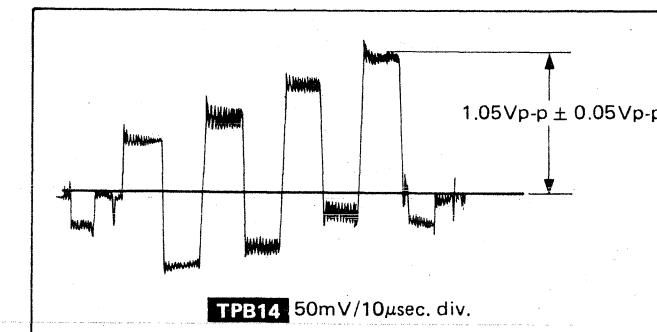

Fig. 12
6. Adjust R5106 (Sub. Colour) so that the waveform **TPB14** becomes  $1.05 \pm 0.05V$  as shown in Fig. 12.